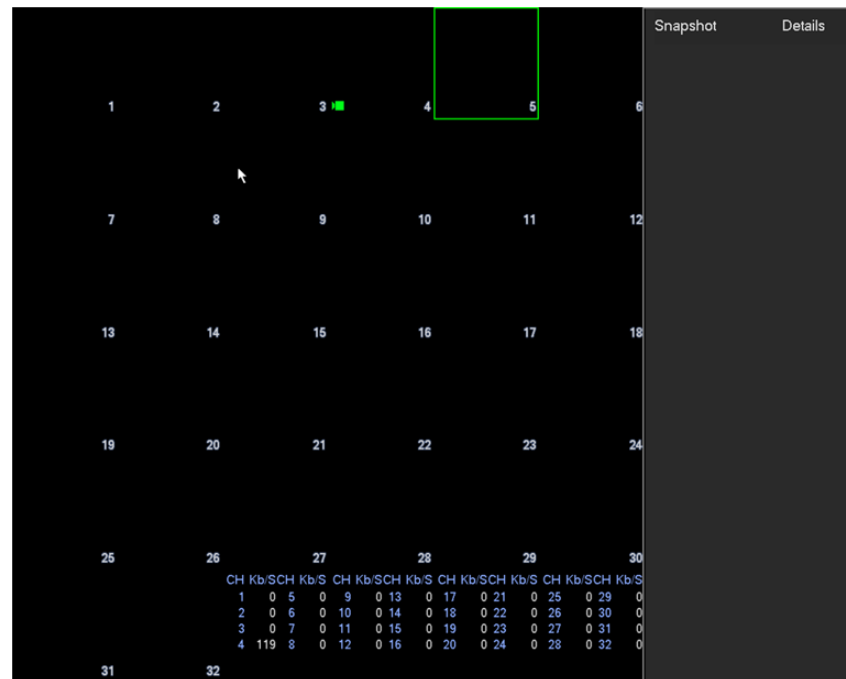

Figure 3-67
- ✧ Human face: System will display human face information on the right pane of the preview interface. See Figure 3-67.